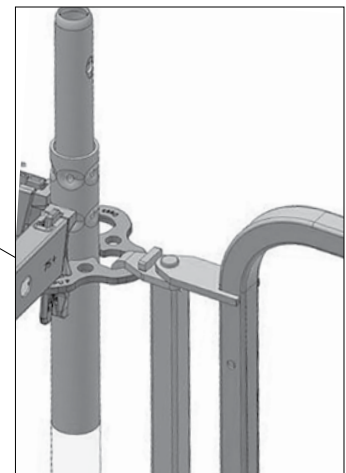
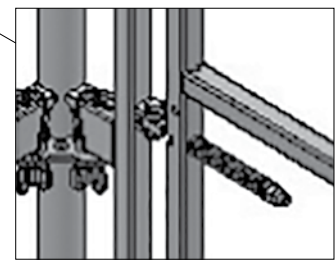

Fig. A2.02a
Fig. A2.02b
1. Mount the Swing Gate with ledger connection (Fig. A2.02b) and top suspension bracket (Fig. A2.02a) in the rosettes.